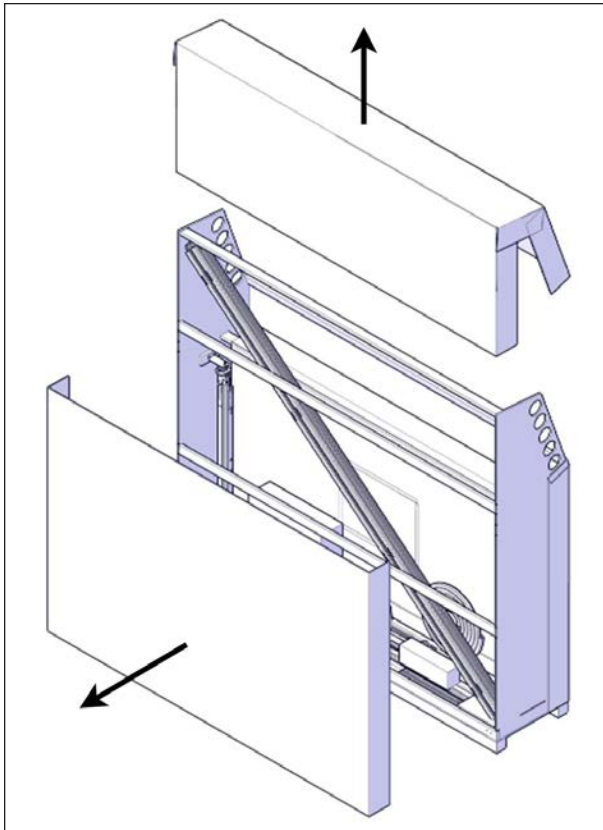

FIGURE 21: CARDBOARD REMOVAL
2. Remove the top and back cardboard see Figure 21.